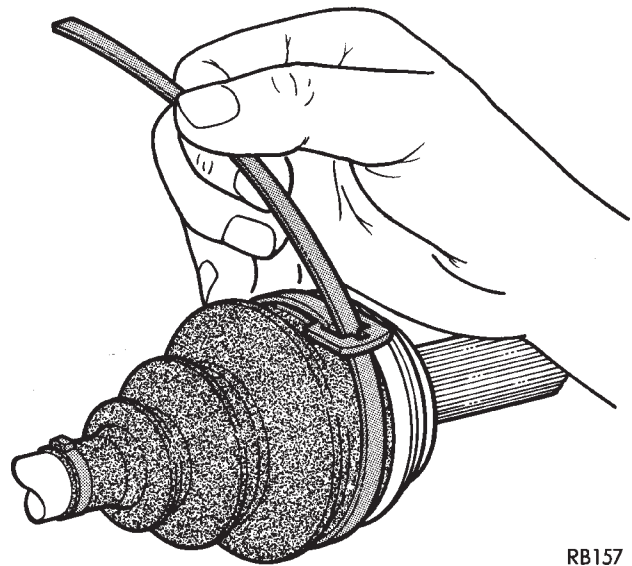

Fig. 4 Wrap Strap (through Buckle Eye) Twice
(6) Put the strap around the boot with the eye of the buckle toward you (Fig. 4). Wrap the strap